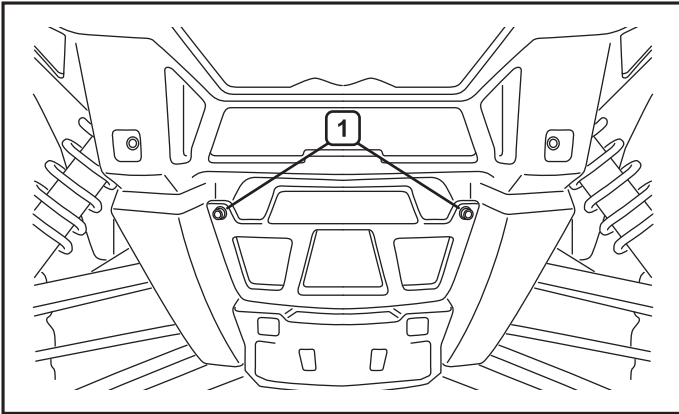

Figure 2. Access cover removal
2. Remove the winch cover by removing two bolts (1) shown in figure 2. These parts will not be used.